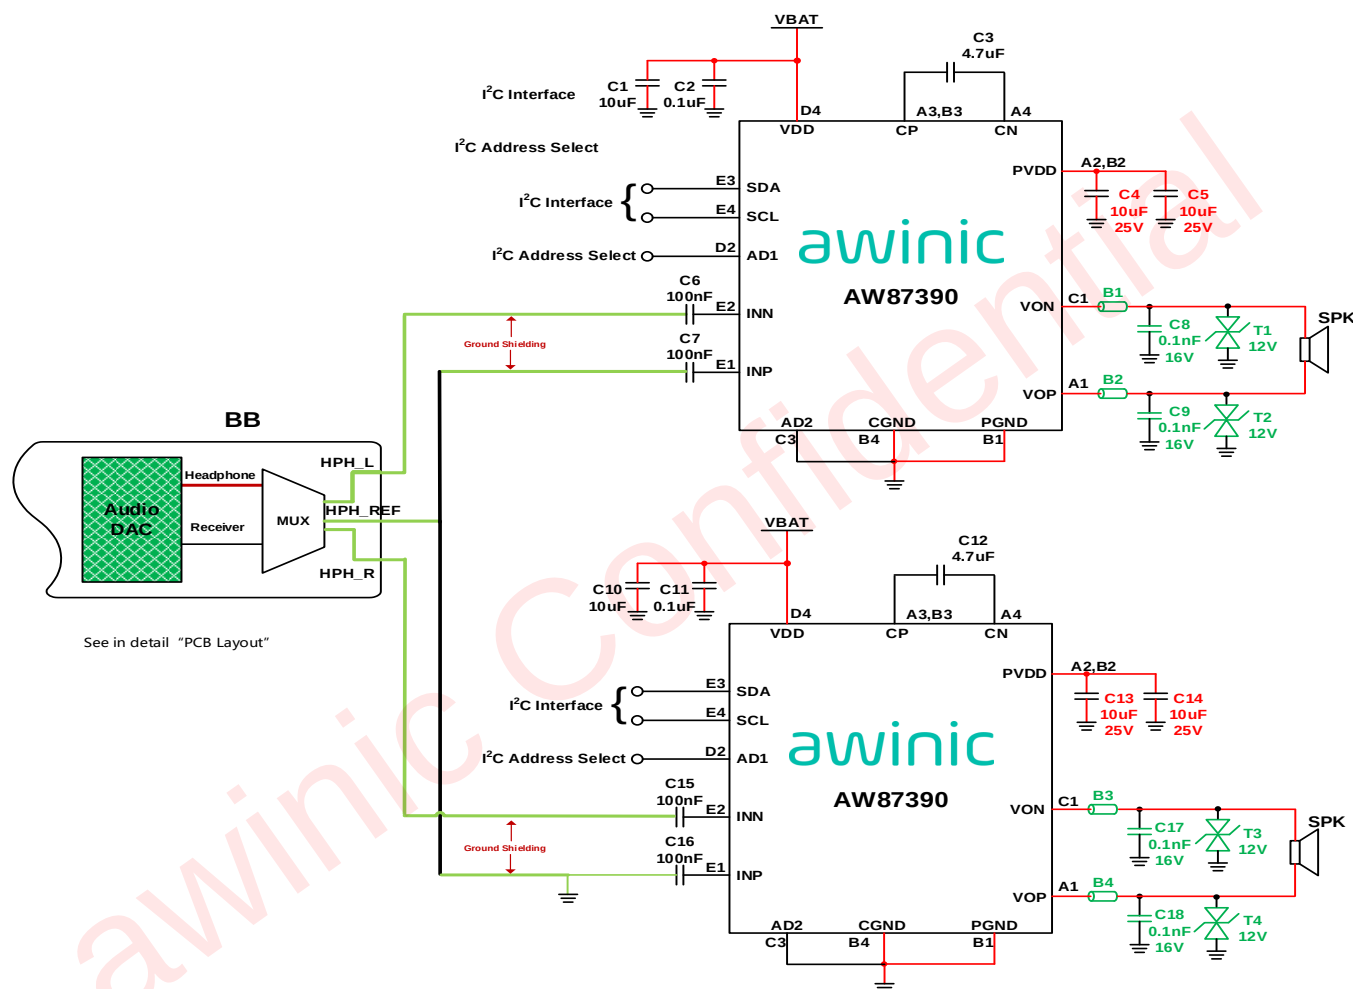

Figure 5 AW87390FCR Stereo Application Reference Schematic
5. For single-ended stereo applications, the left and right channel audio PA inputs should be connected in the same way as the left and right channel outputs on the platform side. For example, when INN is selected as the input pin, both audio PAs use INN as the input pin to connect to the left and right channels of the platform. To avoid the sound phase output of the left and right channels being reversed, the sound effect will be problematic. The reference connection method is shown in Figure 5.